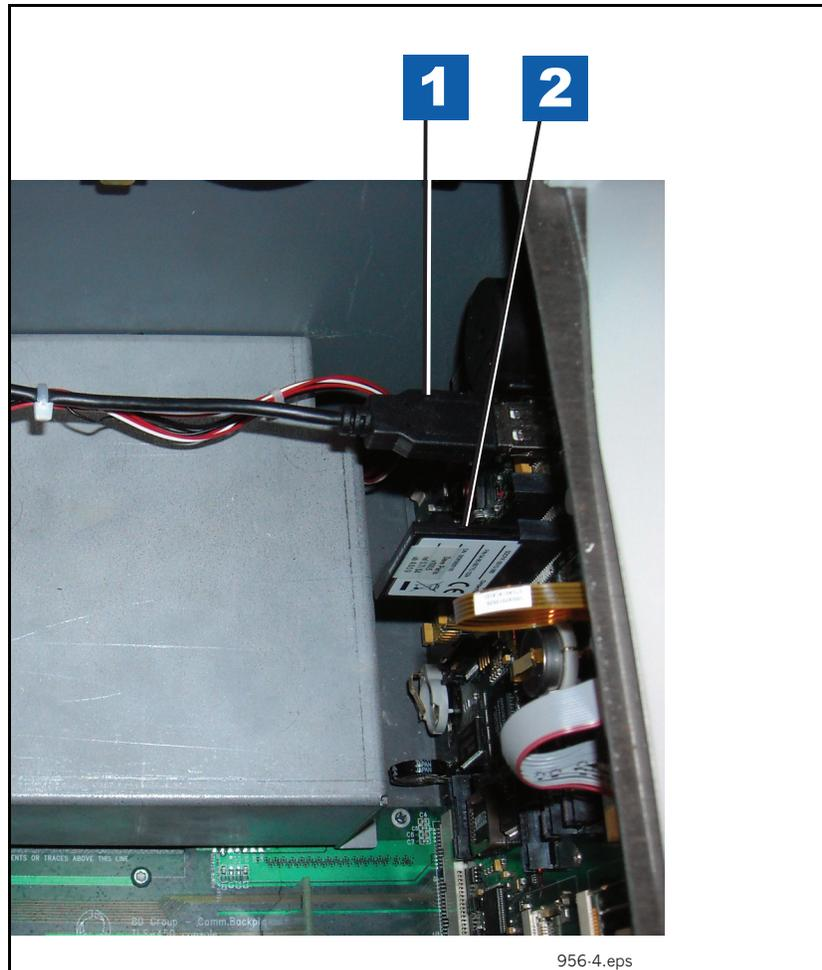

Figure 5. Remove USB cable and CF card
3. Disconnect the USB connector and remove the CF card from the CPU board (see Figure 5).
### Legend for numbered boxes in Figure 5